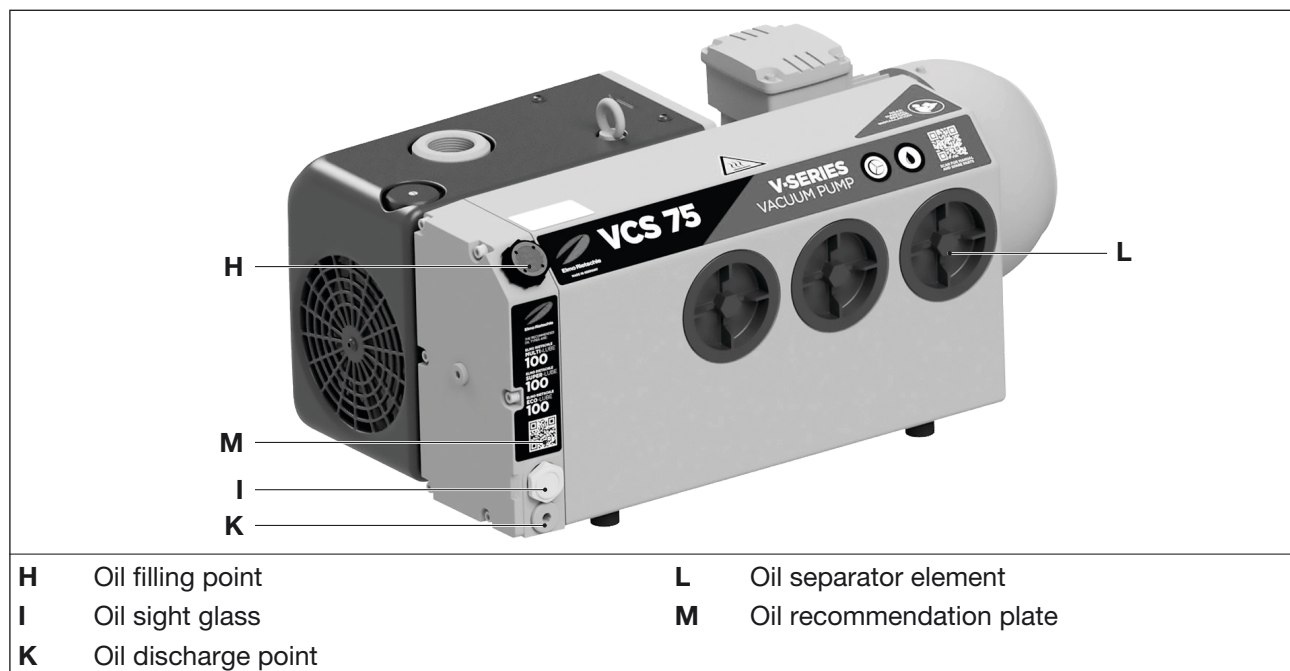

Fig. 7 Oil change and de-oiling
As operating agent, we recommend Elmo Rietschle oils, see oil recommendation plate (Fig. 7/M) as well as Tab. 3 on page 31:
- b) Open the cap of the oil filling point (Fig. 7/H) and refill oil until it reaches the upper edge of the sight glass (Fig. 7/I).
- b) Open the cap of the oil filling point (Fig. 7/H), open the oil discharge point (Fig. 7/K) and completely discharge the used oil.
- c) Close the oil discharge point (Fig. 7/K) and fill in new oil through the oil filling point (Fig. 7/H).
- d) Check the oil level in the sight glasses (Fig. 7/I).
- Unscrew oil separator elements (Fig. 7/L) with a ring spanner (width across flats 19 mm) counter-clockwise.